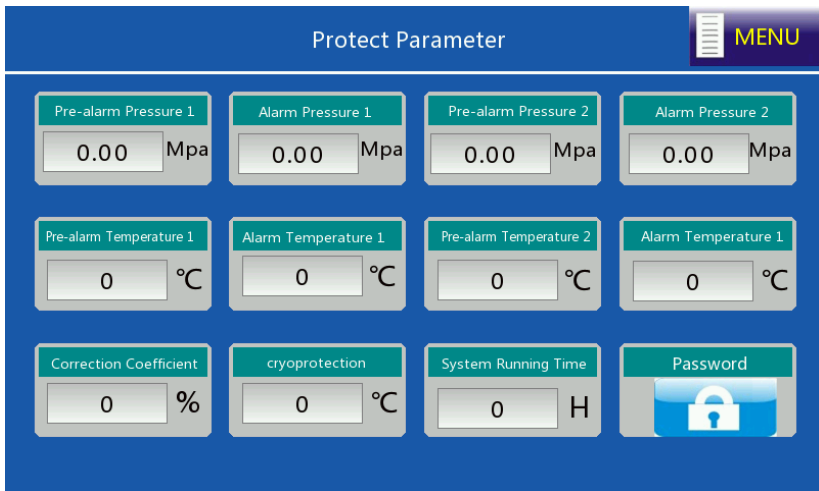

Figure 4-12 Protection parameter interface
8. Choose **Protect parameter** in the menu, and the interface is displayed, as shown in Figure 4-12.